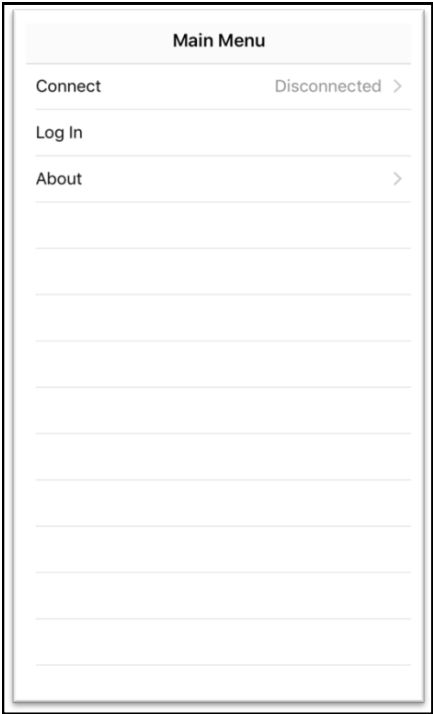

Figure 1
2. When the Main Menu appears, *Connect* to the i-Drive device (*Figure 1*).